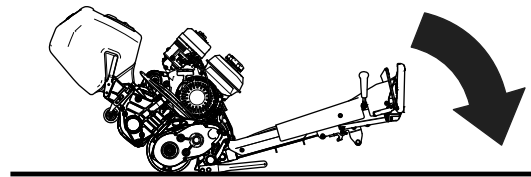

Figure 4
1. Access the cutting unit by lowering the traction-unit handle to the ground (Figure 4).